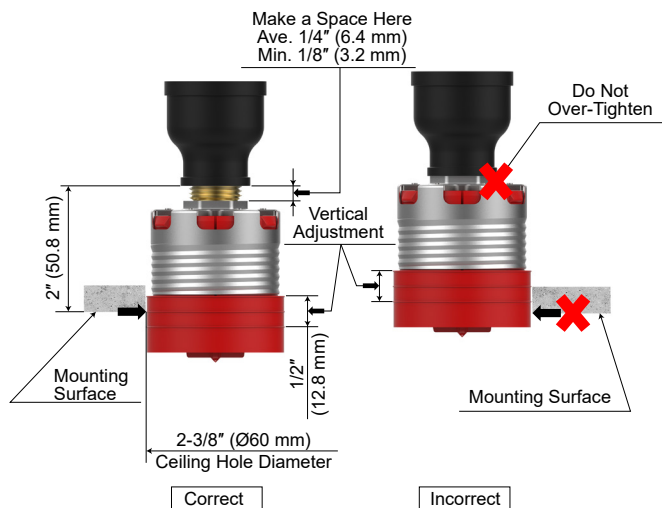

Figure 3: Installation
Step 1: The installation requirements for the sprinkler are as follows: to be installed only in the pendent position with the waterway perpendicular to the ceiling. Install the sprinkler fitting so that the distance from the face of the fitting to the mounting surface will be nominally 2 inches (50.8mm) as shown in Figure 3.
Step 3: If desired, the Protective Cap may also be used to locate the center of the clearance hole by gently pushing the ceiling material against the center point of the Protective Cap. Before the installation of the ceiling, the sprinkler installation can be started with a 2-3/8 inch (60mm) diameter clearance hole (Ref. Figure 3). Use the "Vertical Adjustment" indicator on the Protective Cap to check for proper installation height (Ref. Figure 3).